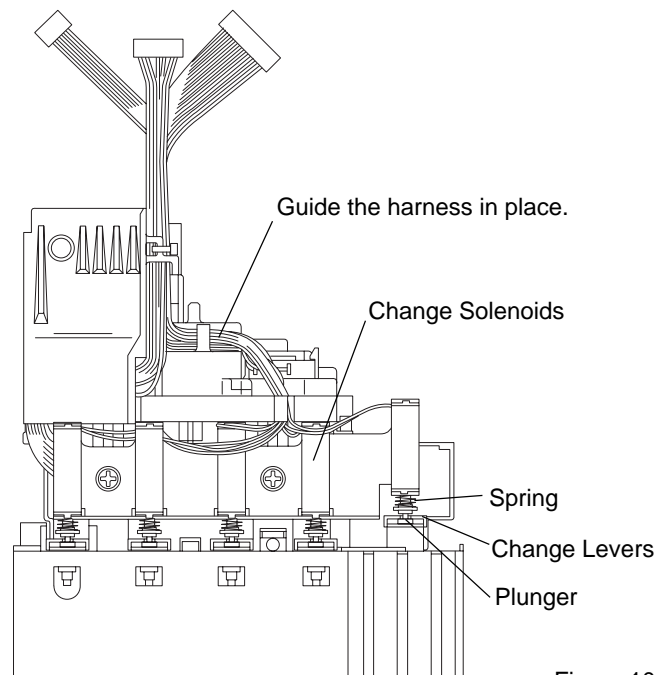

Figure 10
2. Install the harness properly in place as it was before removal. (See the Figure 10.)